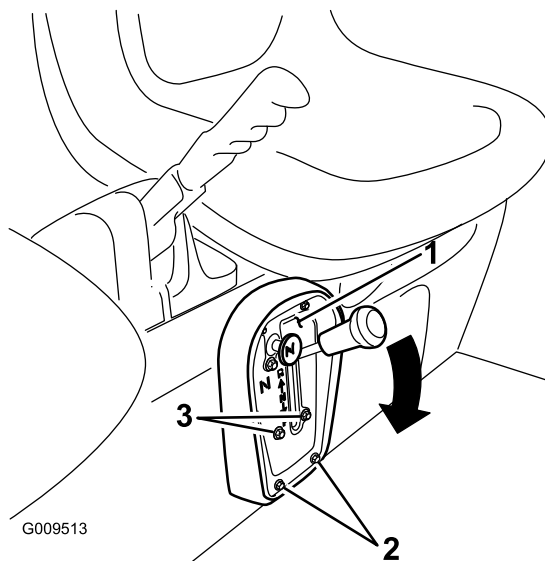

Figure 10
1. Locate the shift selector assembly below the seats (Figure 10).
2. Remove the 4 bolts (1/4 x 3/4 inch) securing the shift selector to the seat box frame (Figure 10). Do not discard.
3. Pull the shift selector forward far enough to see the choke cable from the top. Remove the 4 bolts (1/4 x 1/2 inch) securing the shift plate to the shift selector body (Figure 10). Do not discard.